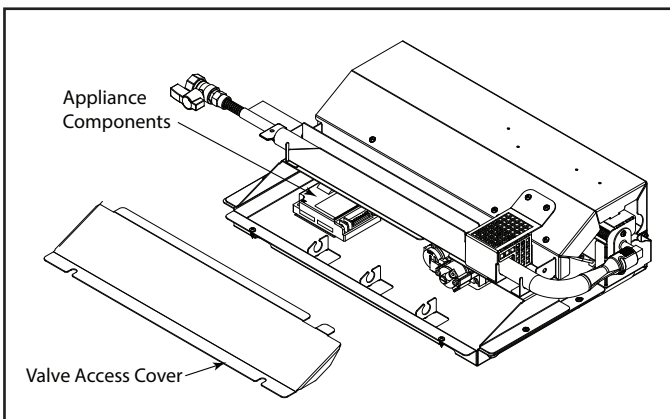

Figure 1
4. Remove the Valve Access Cover by grasping cover by the edges lift and pull forward out of the appliance. Gas components should now be accessible. See Figure 1.